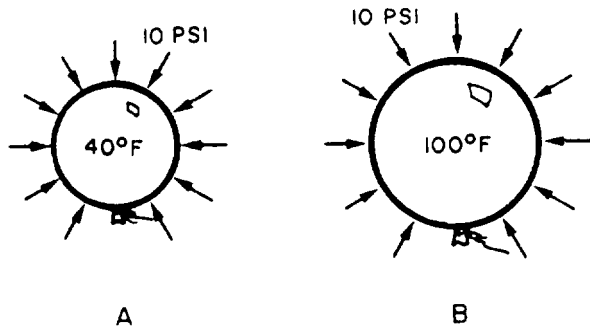

Figure 2-7.—Pressure differential in respect to temperature.
- Charles’s law—when the pressure is held constant, an increase in the temperature of a gas causes a proportional increase in volume. A decrease in the temperature causes a proportional decrease in volume, as shown in figure 2-7. Balloons A and B have an outside pressure of 10 pounds per square inch (psi). Both have the same volume of air. Balloon A is at 40°F and balloon B is at 100°F. This shows that increased temperature causes the balloon size to increase.